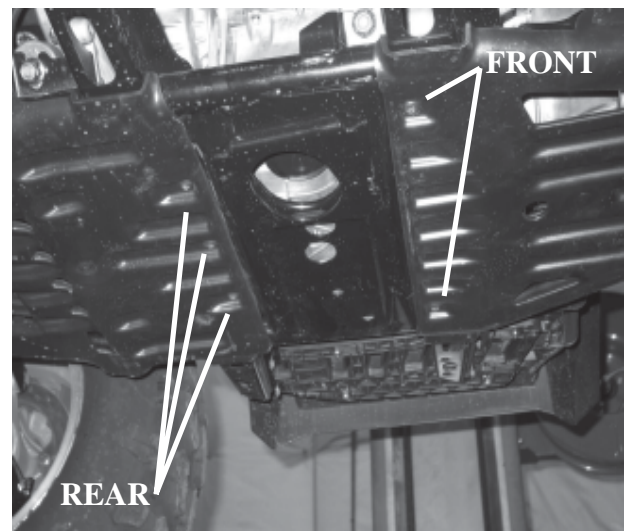

Figure 1
1. Remove the 3 fasteners securing the rear skid plate to the bottom of the vehicle. Remove the 2 fasteners securing the front skid plate to the bottom of the vehicle. The rear skid plate will continue being removed, the front skid plate will not need to be removed for this installation, figure 1.